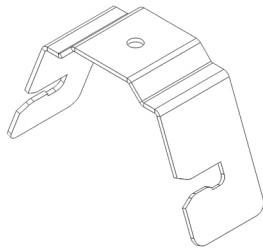

fig. 8
1. Mount the two external mounting brackets to the mounting surface (ceiling or wall). External mounting bracket illustrated in fig. 8.